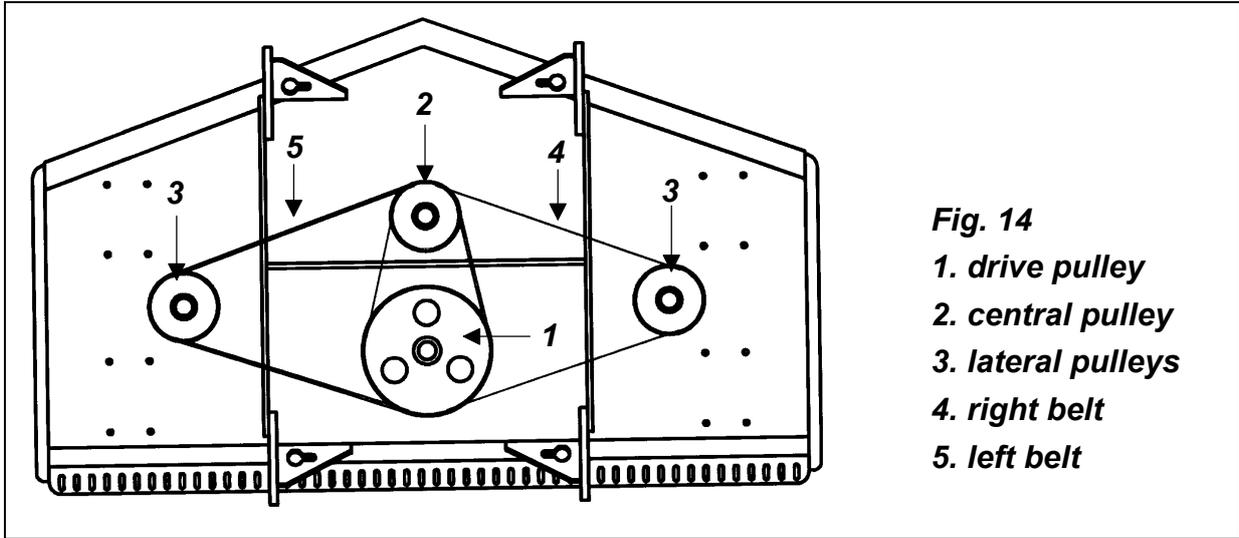

Fig. 14
8. Replace new belts (**see fig. 14**). Loop the first belt over the left spindle and around the lower groove of the centre spindle pulley and the lower groove of the gearbox drive pulley. The second belt connects the upper grooves of the centre spindle pulley and the gearbox drive pulley with the right spindle pulley.